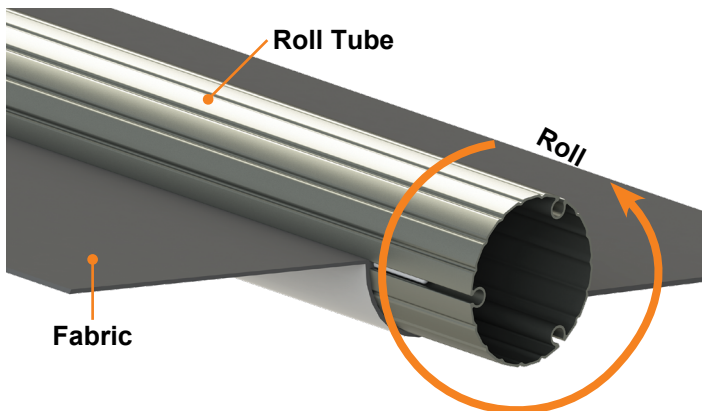

Fig.16
5. Roll the fabric onto the roll tube (**Fig.16**). Make sure the fabric stays snug and flat to the roll tube with the printed side facing outward.